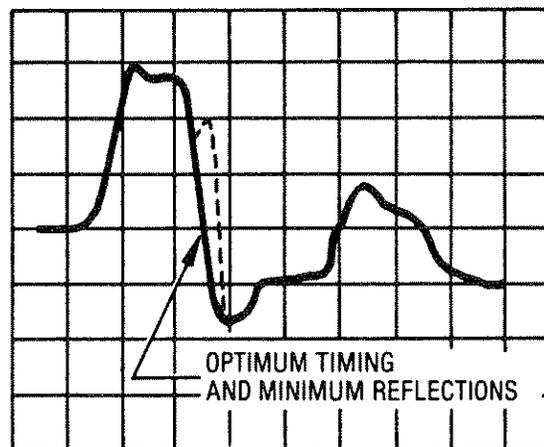

Figure 5-33. Series Pulse Width Waveform
17. Adjust SPW (SER P A1A4R25) to obtain the waveform shown in Figure 5-33.